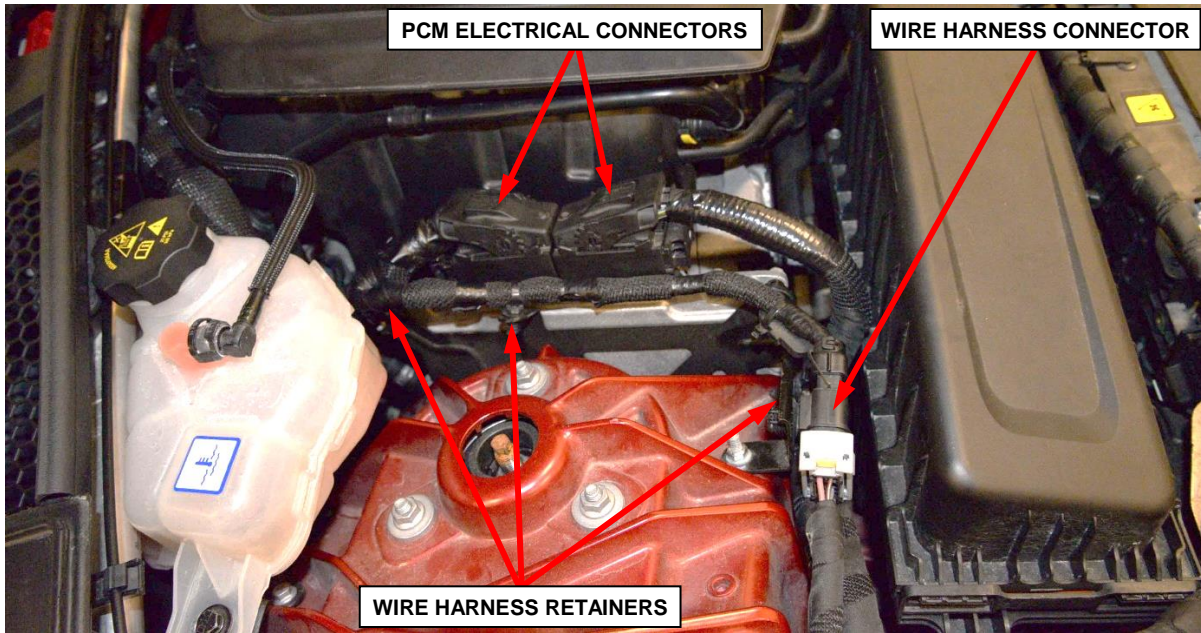

Figure 33 – PCM Control Module Electrical Harness
41. Disconnect the wire harness connector (Figure 33).
42. Disconnect the electrical connectors from the Powertrain Control Module (PCM) (Figure 33).
43. Release the wire harness retainers (Figure 33).
83. Secure the wire harness retainers. (Figure 33).
85. Connect the wire harness connector (Figure 33).